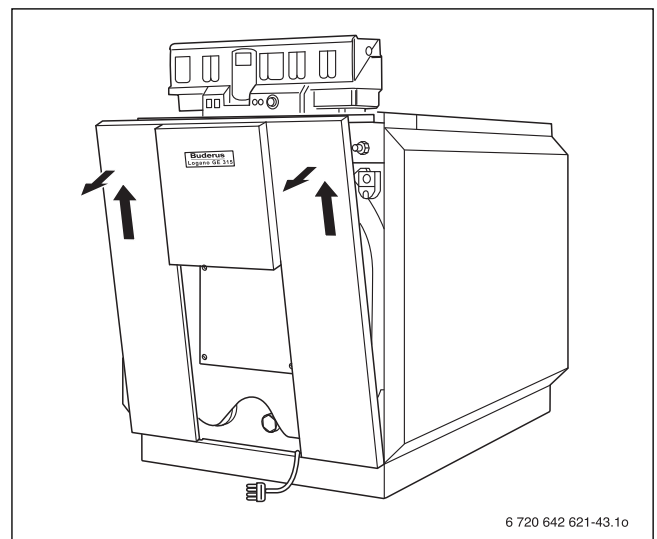

Fig. 60 Removing the front panel
- ▶ Slightly lift the front panel and remove by pulling forwards (Fig. 60).